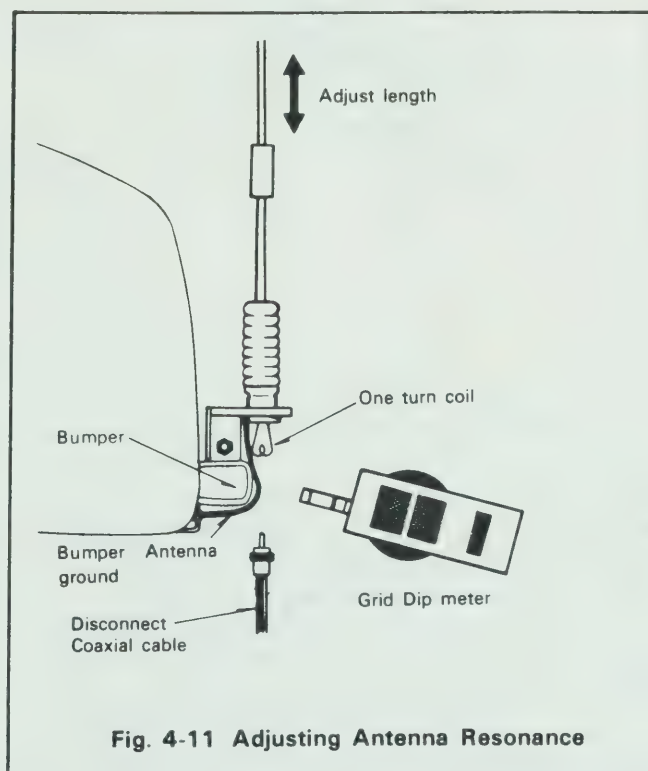

Fig. 4-11 Adjusting Antenna Resonance
#### (3) Antenna Adjustment (Fig. 4-11)
The antenna to be used should first be checked with a dip meter to insure that it is designed for your operating band, then the impedance matching should be checked with an SWR meter. (See Fig. 4-11)